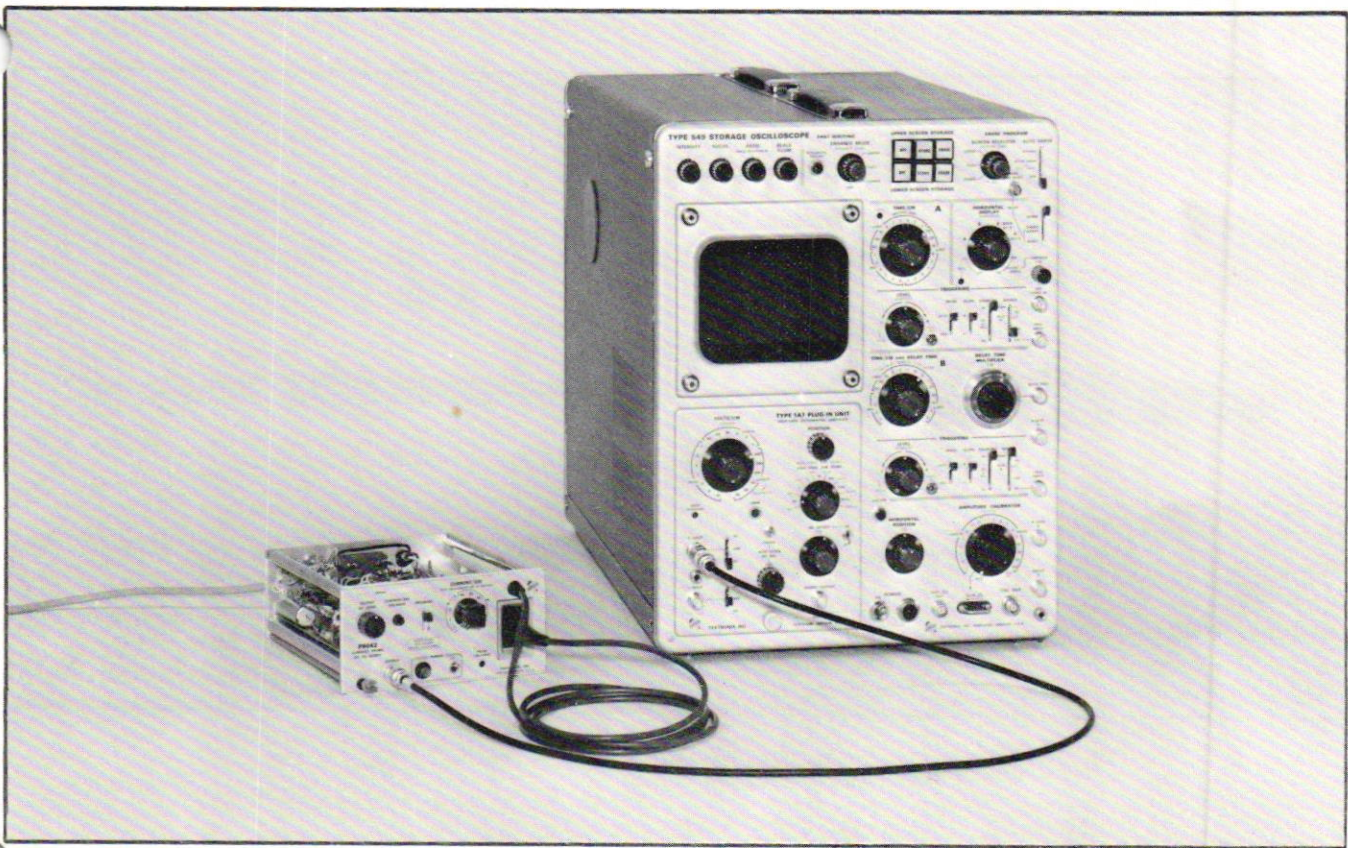

Fig. 6-6. Test setup for steps 6 through 9.
a. Remove the 1 $\times$  probe and connect the 50  $\Omega$  termination to the + Input connector. Connect a 50  $\Omega$  cable from the P6042 OUTPUT to the termination. See Fig. 6-6.
a. Reconnect the P6042 OUTPUT, terminated in  $50\ \Omega$ , to the oscilloscope input. See Fig. 6-6.